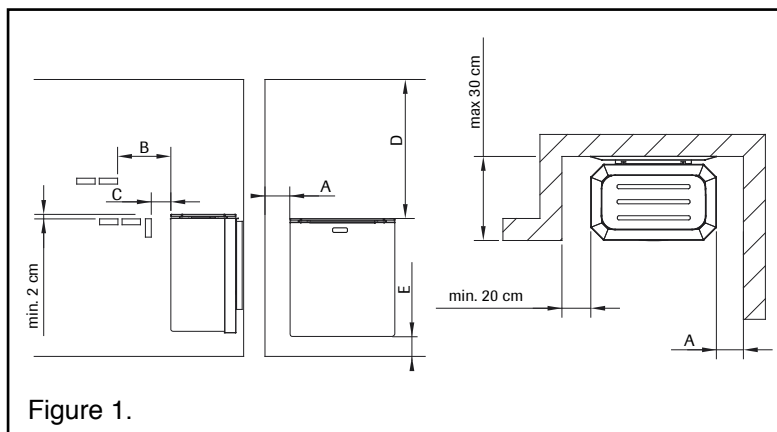

Figure 1.
\*\*) See Figure 1
- The NARVI NC sauna heaters of 6.0 kW can also be installed in a wall recess, provided that the safe distances given by Figure 1 are observed.